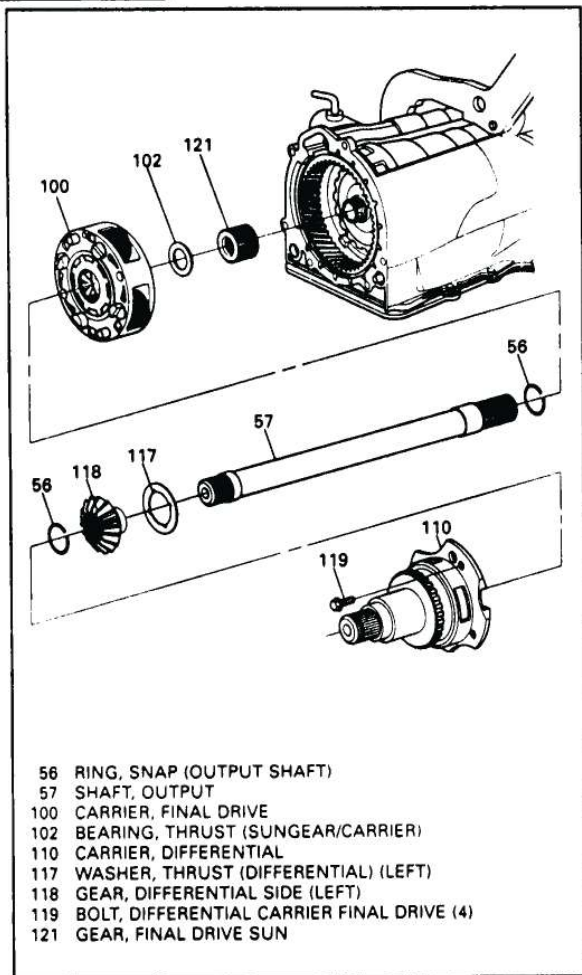

Figure 121
1. Install final drive sun gear onto the final drive sun gear shaft splines, as shown in Figure 121, with the seal side facing the differential.
2. Install the final drive carrier with the thrust bearing secured with TransJel on sun gear side, turning unit until it meshes with sun gear and ring gear. (See Figure 121).
3. Install left side thrust washer (117) on carrier and retain with TransJel. (See Figure 121).
4. Install left side differential side gear (118) as shown in Figure 121.
5. Install output shaft (57) from opposite side of transaxle, and spline it into differential side gear (Figure 121).
6. Install NEW snap ring (56) onto the output shaft. Do not overexpand the snap ring. It MUST seat down inside of the left differential side gear to allow proper assembly of differential carrier. (See Figure 121).
8. Install differential housing (110) and hand start four bolts, as shown in Figure 121.
9. Differential housing MUST locate on the dowels on carrier (See Figure 121).